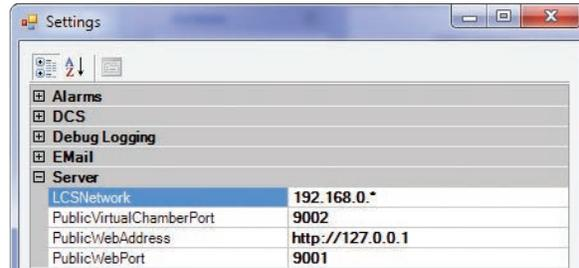

Figure 6.29: Server Settings
- Insert this address in the Server Settings "PublicWebAddress", see Figure 6.29